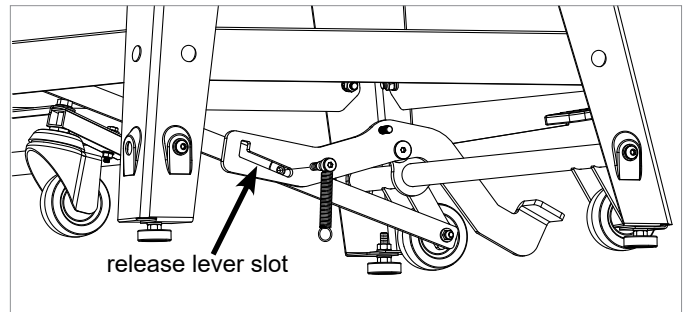

Fig. 14
14. The end of the release lever opposite the foot pedal includes a slot. Pivot the release lever until the slot aligns with the plastic washer and threaded hole in the middle of the linkage bar. Insert the release lever locking screw through the slot in the release lever and thread it into the hole in the linkage bar, making sure to keep the extension spring on the screw (see Fig. 14). Fully tighten the release lever locking screw with a 5 mm hex key.